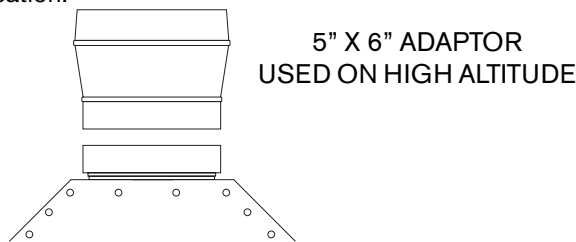

Fig. 4 - Vent Adaptor for High Altitude Installations
**WARNING: Do not reduce the vent pipe size. See Fig. 4 for high altitude installations**
**VERTICAL GAS VENT:** A 5 inch diameter gas vent constructed of double wall Type B gas vent is recommended. 6 inch is required in elevations greater than 2000 feet, see Fig. 4. Any gas vent section that is greater than 45 degrees from the vertical is considered horizontal. Horizontal sections must slope upwards at least 1/4 inch for every foot of its horizontal length and be properly supported. Keep the horizontal section short and avoid too many elbows. The minimum vertical gas vent height allowed is 6 feet; horizontal vent connectors and elbows are not to be considered in the total gas vent height. All gas vent sections must be secured to each other with sheet metal screws and be properly supported.
**MASONRY CHIMNEY:** Masonry chimneys shall be built and installed in accordance with NFPS 211 or local codes. A minimum 5" diameter gas vent pipe (metal double wall Type B), or an approved clay flue liner or a listed chimney lining system must be used when venting into a naturally drafting, internal masonry chimney. 6 inch is required in elevations greater than 2000 feet, see Fig. 4. Local codes may require the use of both gas vent *and* an approved lining system when venting into a masonry chimney. The Commonwealth of Massachusetts requires the use of a listed liner. Lining systems include approved clay flue lining, a listed chimney lining system or other approved material that will resist corrosion, erosion, softening, or cracking from exhaust flue gases at temperatures up to 1800 degrees F. The lining system must be listed for use with naturally drafting, draft hood equipped gas appliances. Follow local codes and refer to NFGC 54 and NFPA 58.
The vent connection for the 125 HX is 5 inches. However, for installations at high altitude (over 2000 feet above sea level) a six inch vent is required. A 5" by 6" vent adaptor must be affixed to the flue collar of the 125 HX with at least two screws. See fig. 4.